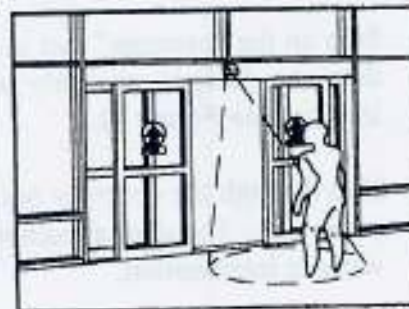

Figure 1
- A. Check the electronic sensor by walking toward the door opening at a moderate speed. The door should start opening when you are about five feet from it, should slide open smoothly and stop without impact. Repeat on the other side of the opening. Move slowly through the door (about six inches per second). The door should remain open (See Figure 1).